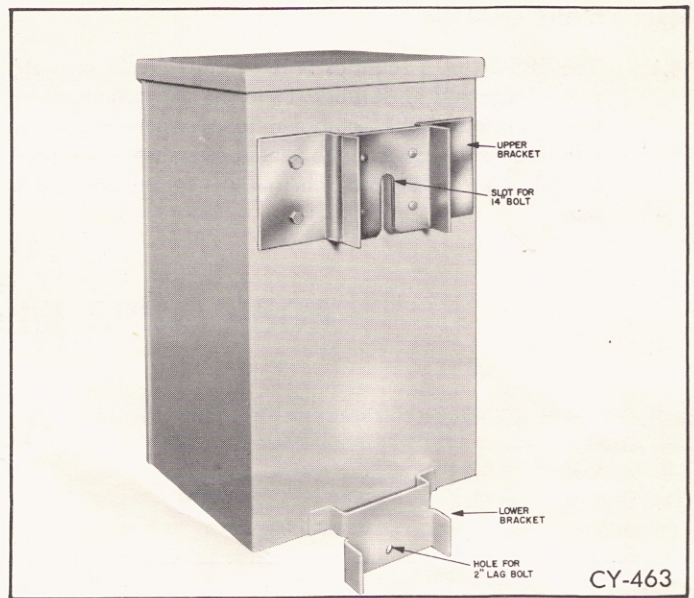

Fig. 3—SPS-30/60A Housing, Rear View
- Slip the upper (slotted) mounting bracket (Fig. 3) on to the bolt so that the bracket is between the bolt head and the washer.